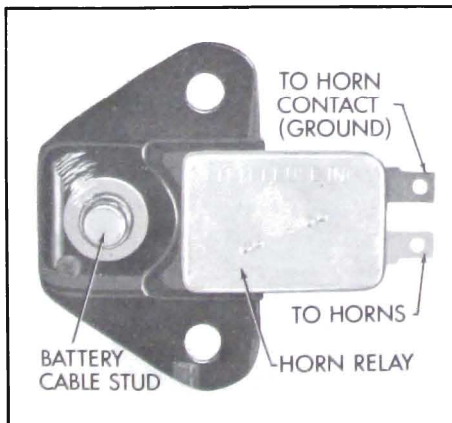

Figure 10-56—Horn Relay and Junction Block Assembly
2. If horns still do not blow when wire at mast jacket is grounded, unplug double connector from horn relay part of junction block assembly. See Figure 10-56. Then plug a known good relay and junction block assembly onto the connector and press battery terminal of new assembly against old junction block battery terminal stud for a source of current. Have helper try blowing horns. If horns blow, original